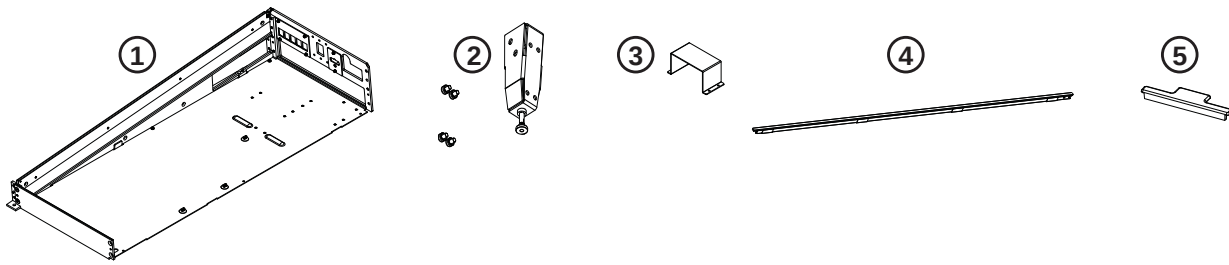

Figure 10. Frame Chassis kit components (Cable Harnesses not shown)
- 3 Identify each component (see Figure 10), then note whether your Frame Chassis are Large or Small. Some steps in the assembly process vary depending the depth (Large or Small) of your Frame Chassis, as noted in these instructions.